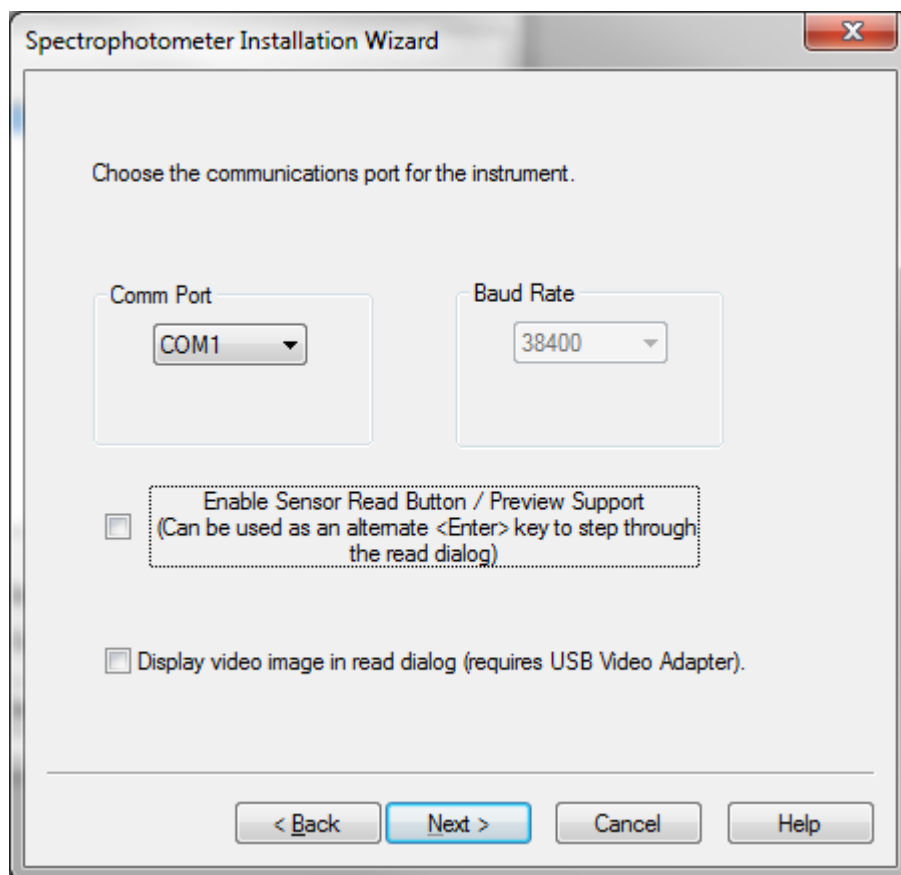

Figure 5 —Communication Port and Baud Rate
9. A dialog box allowing you to select the communications port and the baud rate of the instrument will appear next (see Figure 5).